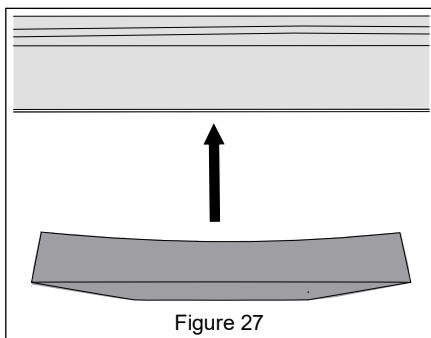

Figure 27
**NOTICE:** Washer must be positioned concave side towards blade and blade **MUST** be installed with cutting edges positioned upward. See Figure 27.
**NOTICE:** Washer must be positioned concave side towards blade and blades **MUST** be installed with cutting edges positioned upward. See Figure 27.